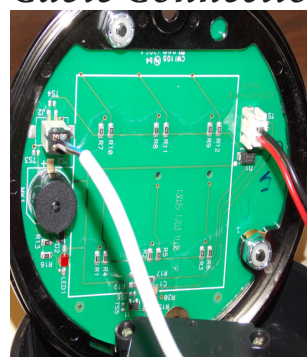

Figure 3c
7. Plug the black lock cable connector into the matching 4 pin receptacle on the underside of the keypad. Plug the black and red power cable into the matching 4 pin receptacle on the underside of the keypad. **They are designed to insert only when oriented correctly** (figure 3c).